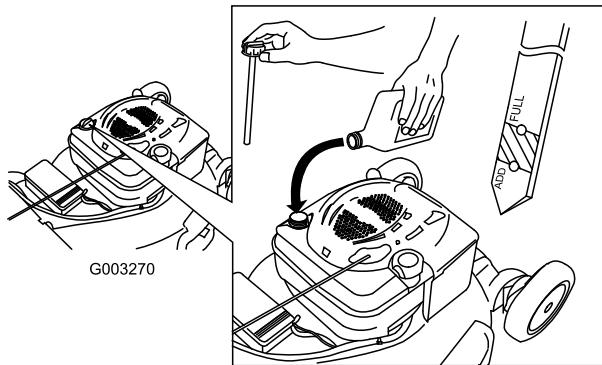

Figure 48
4. Slowly pour oil into the oil fill tube until the oil level reaches the Full line on the dipstick (Figure 48). **Do not overfill.** (Max. fill: 20 oz. (0.59 l), type: SAE 30W detergent oil with an API service classification of SF, SG, SH, SJ, SL, or higher.)